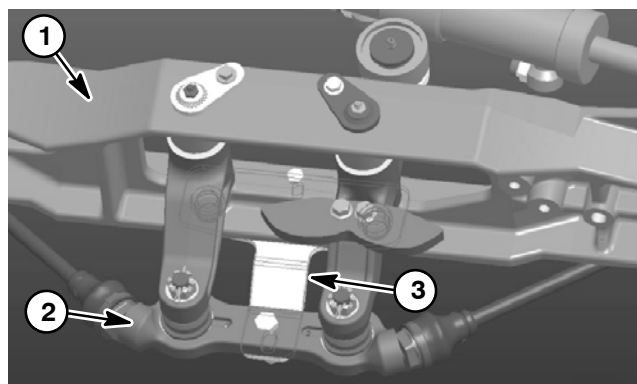

Figure 6
7. Secure rear alignment tool (see Special Tools in this chapter) to rear axle and center link (Fig. 6). If necessary, use steering wheel to align rear steering components with alignment tool before securing tool to machine.